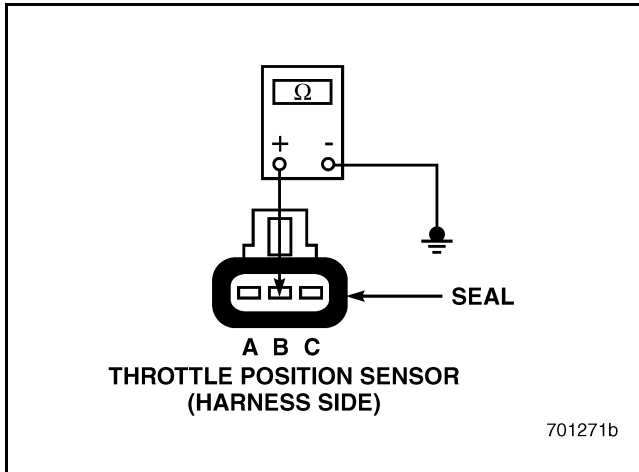

Figure 542
2. Disconnect the Throttle Position (TP) Sensor.
4. Check for continuity between pin B on the harness side of the TP Sensor and a good ground (see Figure 542).